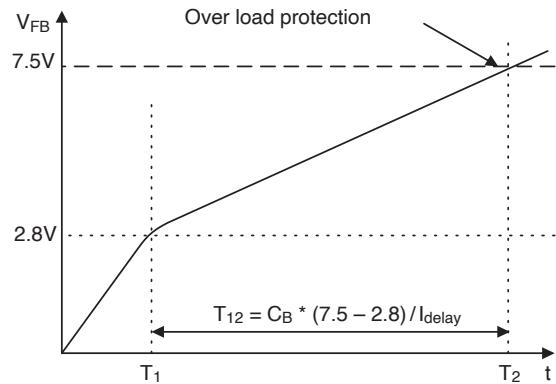

Figure 13. Over Load Protection
4.1 Over Load Protection (OLP): Overload is defined as the load current exceeding its normal level due to an unexpected abnormal event. In this situation, the protection circuit should trigger to protect the SMPS. However, even when the SMPS is in the normal operation, the over load protection circuit can be triggered during the load transition. To avoid this undesired operation, the over load protection circuit is designed to trigger after a specified time to determine whether it is a transient situation or an overload situation. Because of the pulse-by-pulse current limit capability, the maximum peak current through the SenseFET is limited, and therefore the maximum input power is restricted with a given input voltage. If the output consumes more than this maximum power, the output voltage (V_o) decreases below the set voltage. This reduces the current through the optocoupler LED, which also reduces the optocoupler transistor current, thus increasing the feedback voltage (V_{fb}). If V_{fb} exceeds 2.8V, D1 is blocked, and the 5 μ A current source starts to charge C_B slowly up to V_{CC} . In this condition, V_{fb} continues increasing until it reaches 7.5V, then the switching operation is terminated as shown in Figure 13. The delay time for shutdown is the time required to charge C_B from 2.8V to 7.5V with 5 μ A. In general, a 20~50ms delay time is typical for most applications. OLP is implemented in auto restart mode.